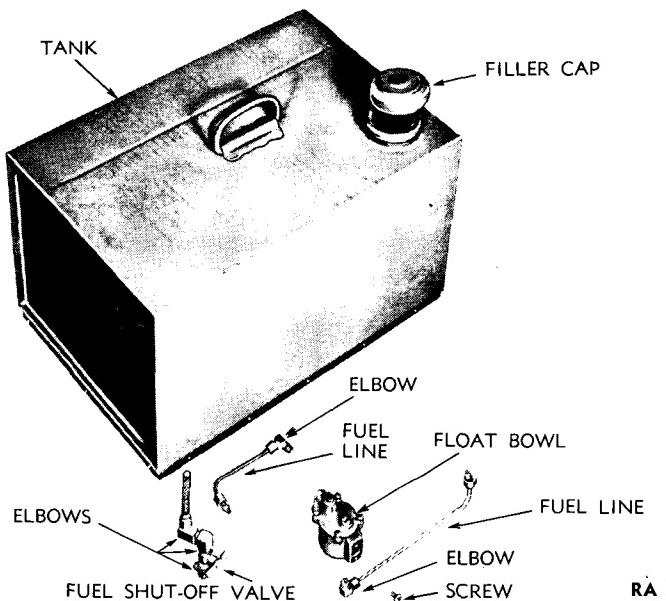

Figure 48 — Fuel Tank, Controls, and Lines, Partially Disassembled
d. **Float Bowl Assembly** (fig. 48). Remove fuel lines and blow out thoroughly. Remove four cover screws and inspect needle valve, seat and float mechanism within the bowl. Clean bowl carefully and reassemble, using new cover gasket. Reconnect fuel lines.
e. **Fuel Filter** (fig. 48). Remove fuel valve and strainer from bottom of fuel tank. Clean strainer thoroughly in gasoline, and be sure no gummy deposit prevents fuel passage through strainer. Check shut-off valve and reassemble to tank.
d. **Install Fuel Tank** (fig. 48). Position fuel tank assembly on base, and install 13 fuel tank attaching screws. Connect fuel line at shut-off valve under tank. Open fuel valve. Install rear cover with 10 cross-recessed sheet metal screws.